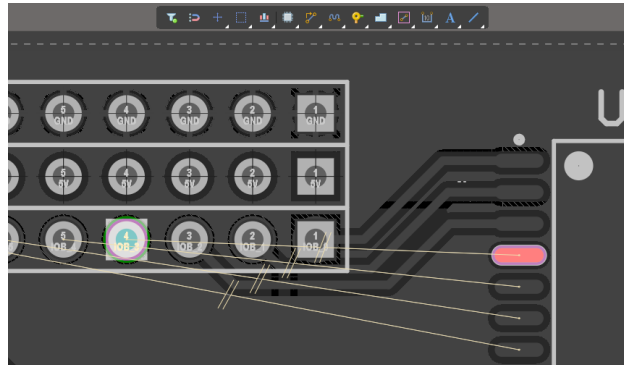

Figure 14. Highlighted violations
30. In the *Violations* pane of the panel, click on any violation in the list to jump to component **IOS2**. One of the pads from **IOS2** should be highlighted along with one pad of component **UI1**, and the rest of the board is masked similar to Figure 14.